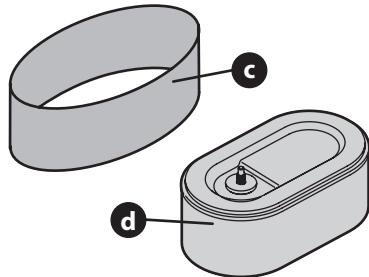

Figure 10
1. Remove the spark plug boot (a) and use a spark plug wrench to remove the plug (b). (Figure 10).